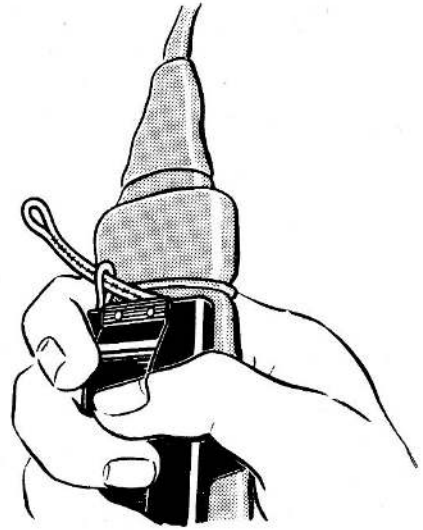

Fig. 13. Connecting the beacon to the battery switch pin—third stage
(4) Pass the longer end through the loop at the other end (fig. 13).